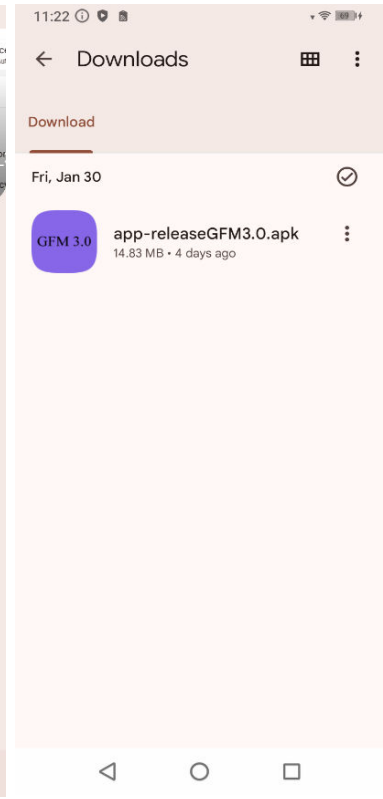

Figure 14 – Downloads
13. Select the application, and begin the installation (Figure 14).